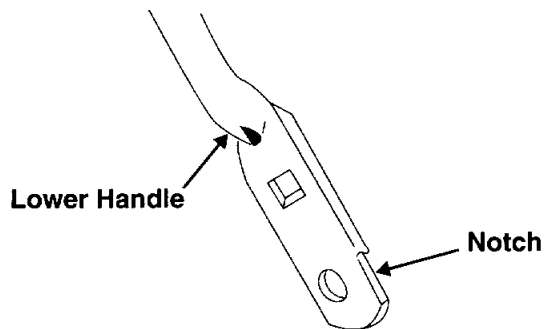

Figure 16
- Turn the lower handle around so the notch on the bottom of the lower handle is facing forward as shown in figure 16. Reassemble, placing the bottom holes in the handle over the weld pins in the handle mounting bracket.